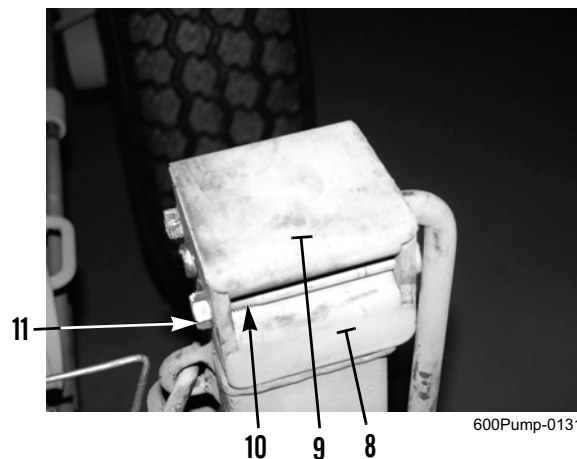

Figure 2. Housing Cover.
5. If lubrication is required, remove two nuts (Figure 2, Item 11), bolts (Figure 2, Item 10), and housing cover (Figure 2, Item 9) from rear leveling jack assembly (Figure 2, Item 8).
6. Fill cavity and pack gear under housing cover (Figure 2, Item 9) with GAA grease. Reinstall housing cover with two bolts (Figure 2, Item 10) and nuts (Figure 2, Item 11).